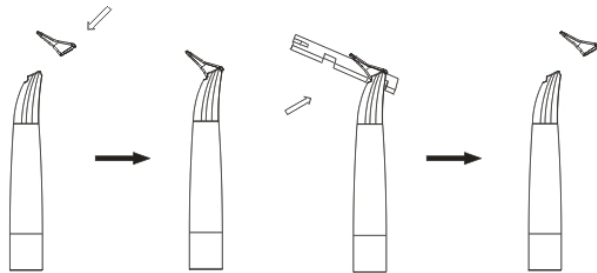

Figure 4
- (1) Pick up the air polishing handpiece, the system will automatically switch to the air polishing treatment mode, at this time the screen shows "A" mode. Without picking up the ultrasonic scaler and air polishing handpiece, shortly press the "M" button, you can also enter the "A" mode.
- (2) Fasten the air polishing nozzle to the air polishing handpiece (this operation is not performed during the supragingival air polishing). (See fig.4)